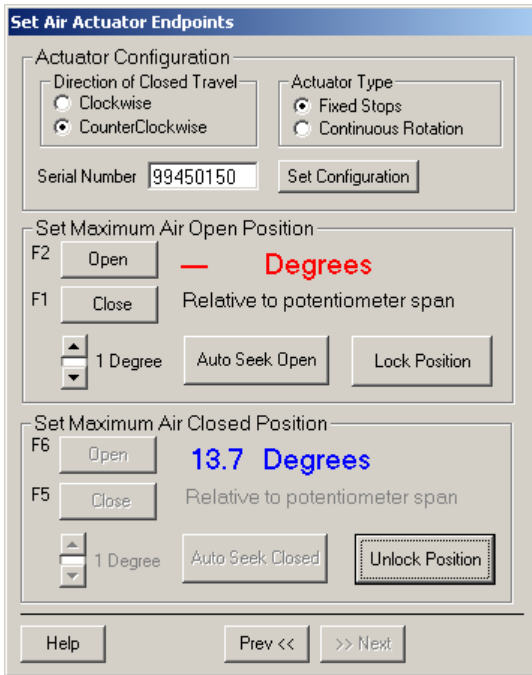

Fig. 10. Move actuator/linkage/damper 2-5 degrees off mechanical closed fixed stop.
- Move the actuator/linkage/damper two to five degrees off the linkage/damper mechanical closed fixed stop. Lock actuator closed position. See Fig. 10.